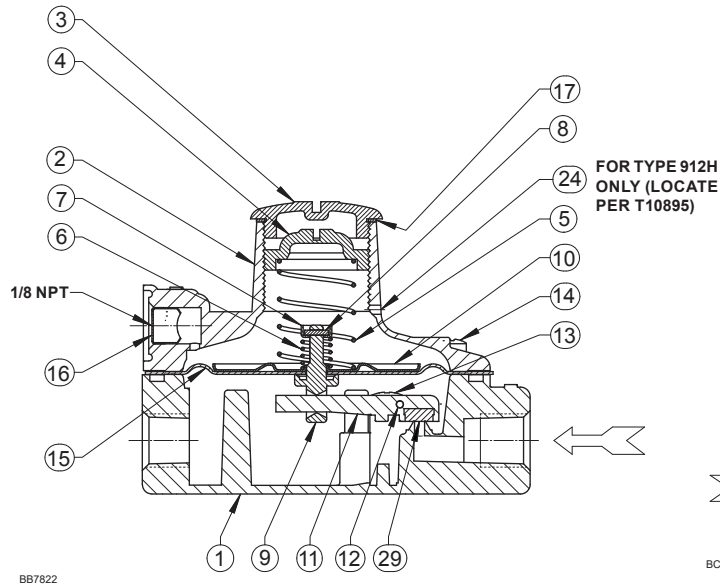

Figure 2. 912N Series Pressure Regulator Assembly
Key numbers are referenced in Figure 2.
This procedure is to be performed if changing the control spring for one of a different range, or for inspecting, cleaning or replacing any other parts. Key numbers are referenced in Figures 2 and 3.
Refer to Figure 2 on units without the handwheel, unscrew the closing cap (key 3) and turn the adjusting screw out of the spring case. Lift out the control spring (key 5).